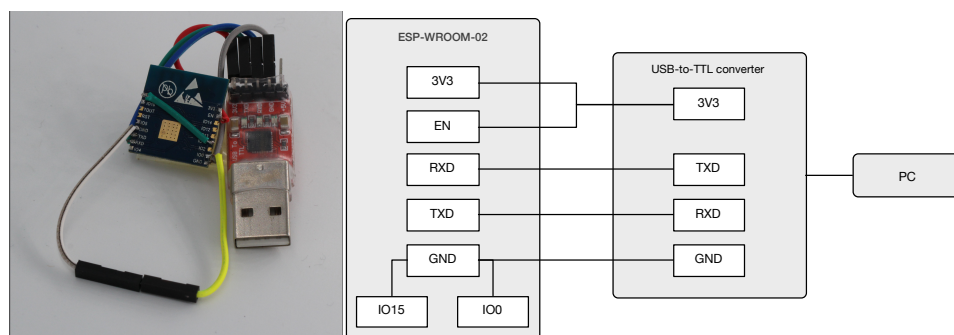

Figure 2-1. ESP-WROOM-02D Download Mode
2. Connect ESP-WROOM-02D to the USB-to-TTL converter, using Dupont lines, as shown in Figure 2-1.